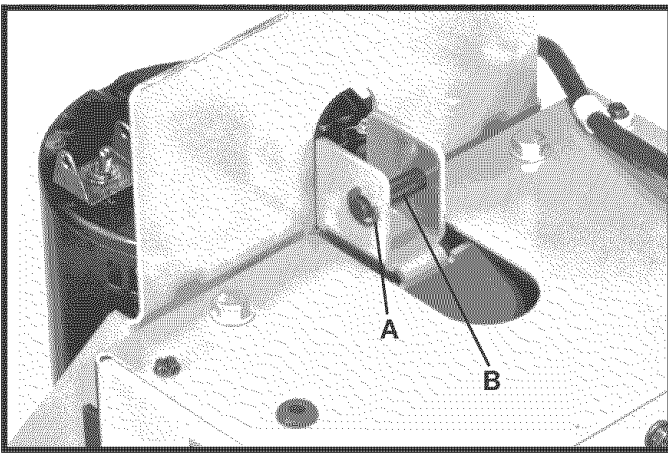

Fig. 22
1. Remove retaining ring (A) Fig. 22, and remove connecting pin (B).